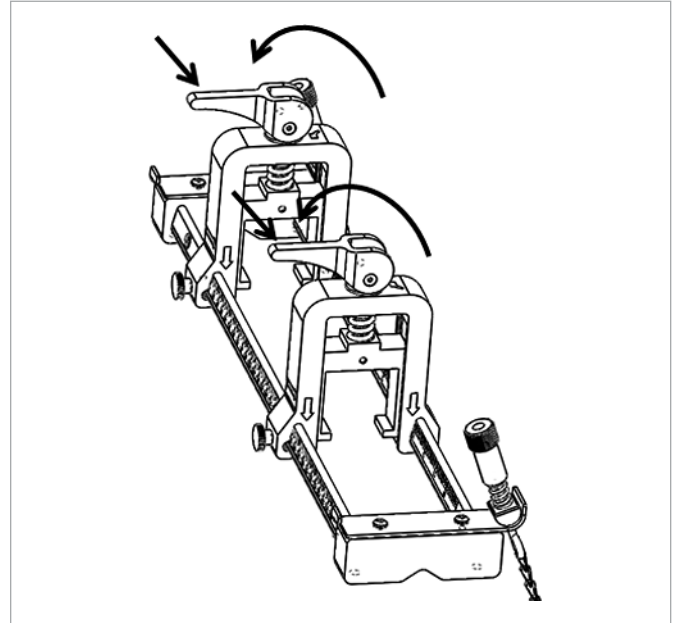

Figure 22: Released cams
- Release the cams on both transducer clamps so that the transducers are pushed towards the pipe to ensure that the couplant completely fills the gaps between the transducer faces and the pipe surface (see *Figure 22* below).